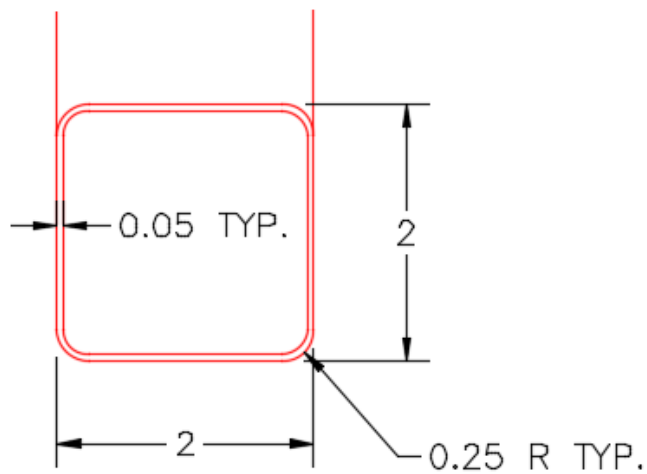
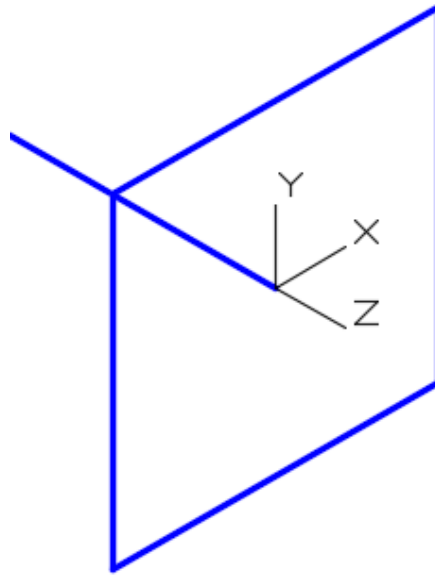

Figure Step 2C
Figure Step 10
Step 10 Using the Figure Step 2C as a reference, draw a closed pline with its center at the end of the path. The pline is 2 inches square. (Figure Step 10)